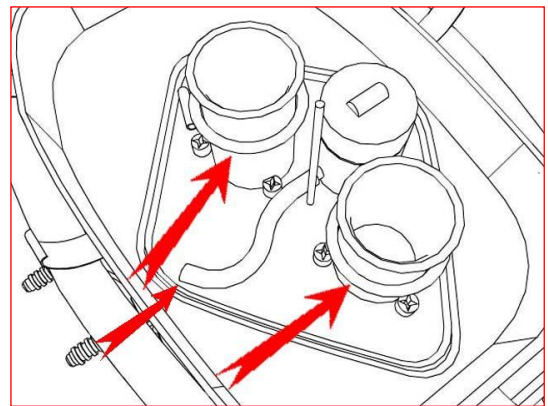

Figure 5
5. **Pull the breather hose from the fitting inside the airbox. Slide the large O rings up the stacks to access the stack mounting screws. (The O rings retain the screws should they become loose.) Remove the 6 screws and the velocity stacks. (see figure 5)**